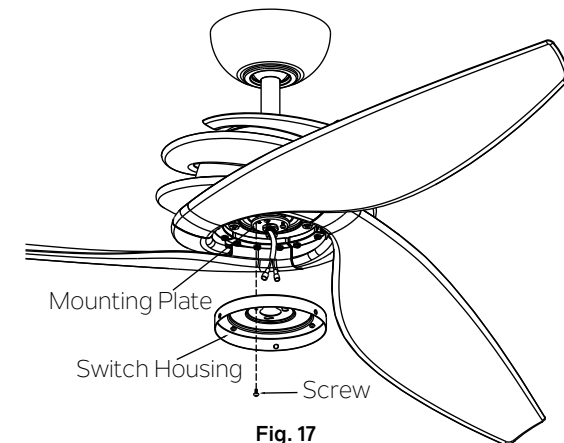

Fig. 17
**Step 1.** Remove one screw on the mounting plate, which near the red dot label and loosen the other two (do not remove). Place the two slot holes on the switch housing over the 2 screws previously loosened from the mounting plate. Rotate the switch housing until it locks in place at the narrow end of the key holes. Securely by tightening the 2 screws previously loosened and the one previously removed. (Fig. 17)